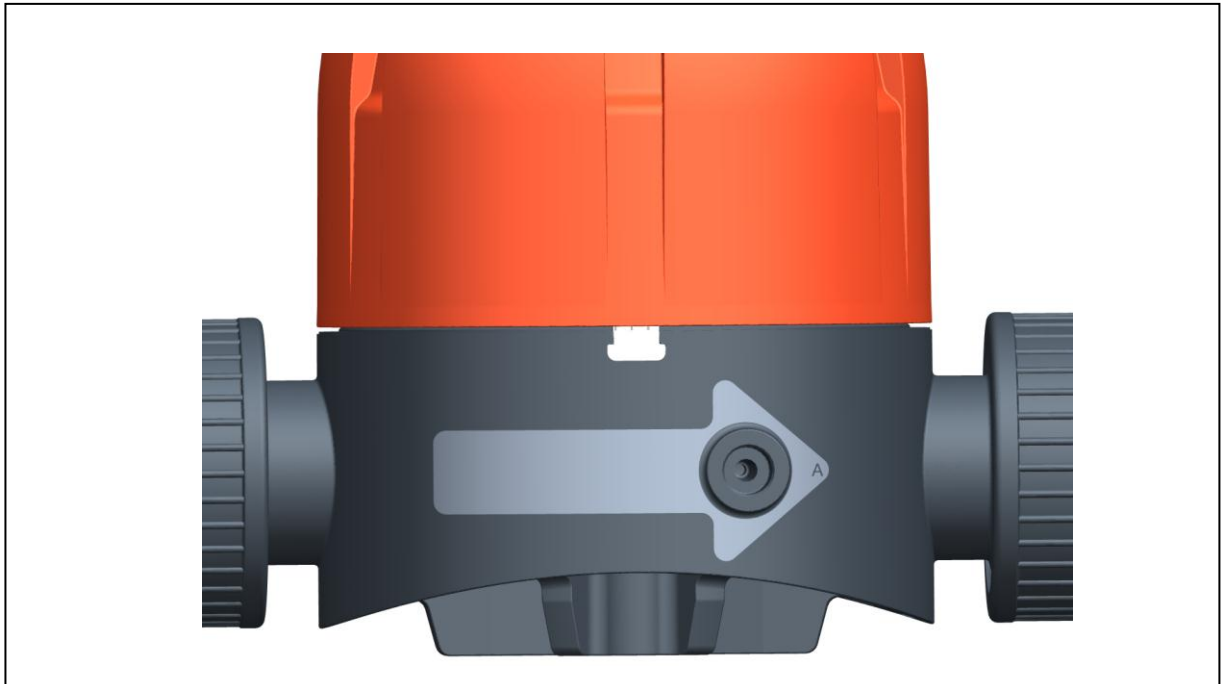

Fig. 1
- Observe the flow direction, see arrow on base part (Fig. 1)